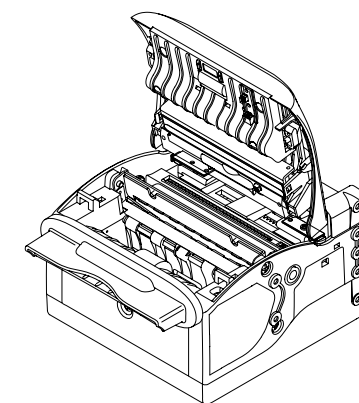

Fig. 8.6. Receipt printer with raised cover
3. Raise the printer cover to the maximum position (Fig. 8.6).